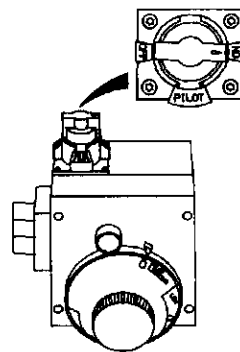

Figure 8
11. At arms length away, turn gas control knob counter-clockwise (↺) to the full "ON" position. **Warning do not use gas control knob to regulate gas flow.** (Figure 8)